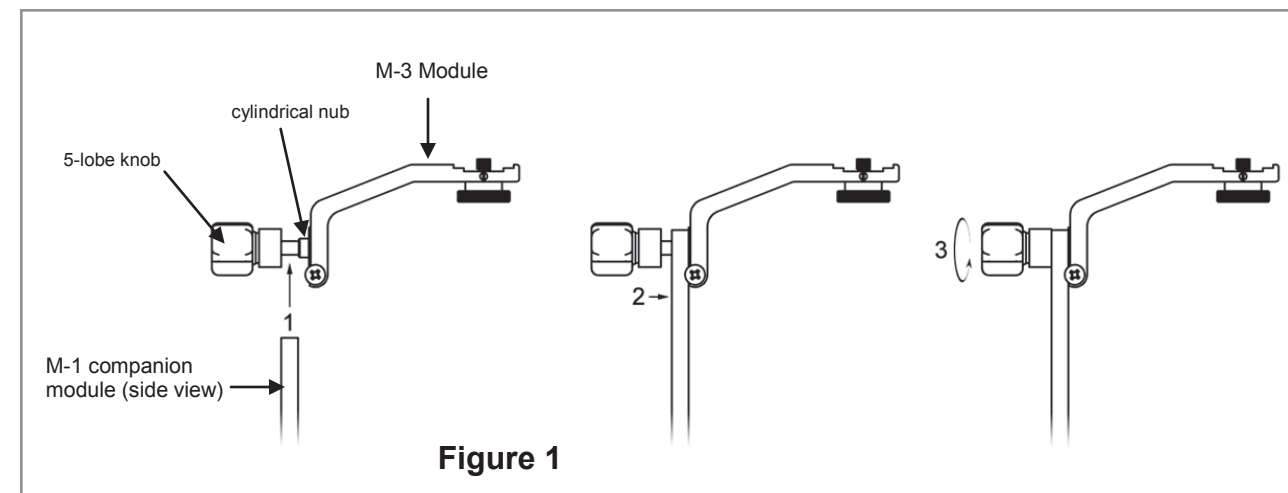

Figure 1
1. Unscrew the 5-lobe knob on M-3 Tilt Arm until it reaches the end of its range, exposing about 3/8" of the threaded stud on which the knob rides (#1, Fig. 1). The knob should not be forced to unscrew completely. If the knob unscrews all the way and comes off, please contact us.
2. Slip the forked end of the M-1 Quick-release Arm companion module over the exposed threads (#2, Fig. 1). Seat the M-1 by slipping one of the enlarged areas in its slot over the cylindrical nub at the base of the exposed threads.
3. Tighten the 5-lobe knob securely (#3, Fig. 1).